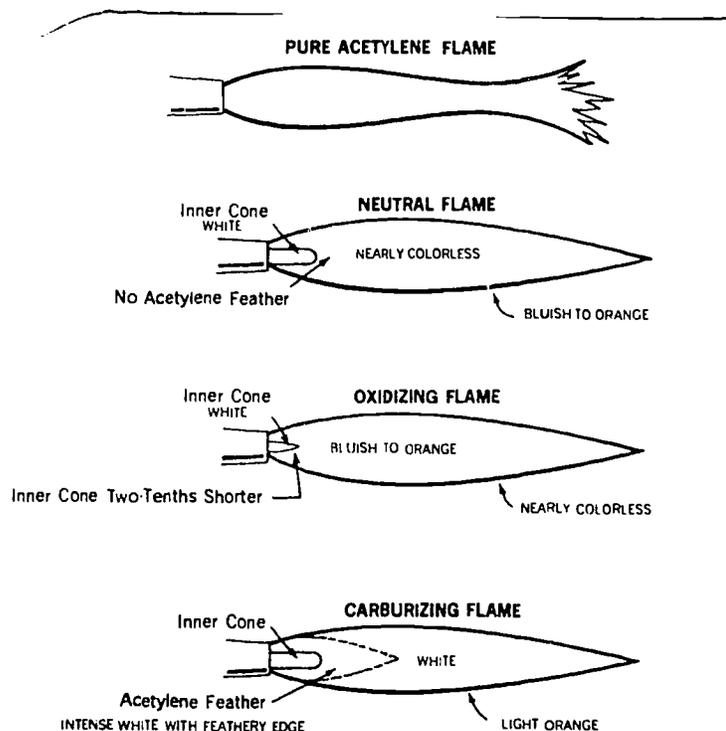

Figure 9
1. Check the thickness of the metals to be welded (figure 8) and prepare as described and illustrated in figure 9.
11. Keep opening the fuel valve until the flame stops smoking and leaves the end of the torch tip about one-eighth inch; then, slightly reduce the fuel supply to bring the flame back to the torch tip (see figure 9).
12. Open the torch oxygen valve until a bright neutral flame is reached (see figure 9).